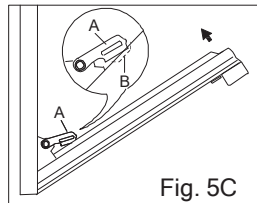

Fig. 5C
- 3 shut the oven door slowly until it reaches hooks "A", making sure these are locked into slots "B" of the oven door, as shown in Fig. 5C. Remove the glass Fig. 5A (only for models where present).